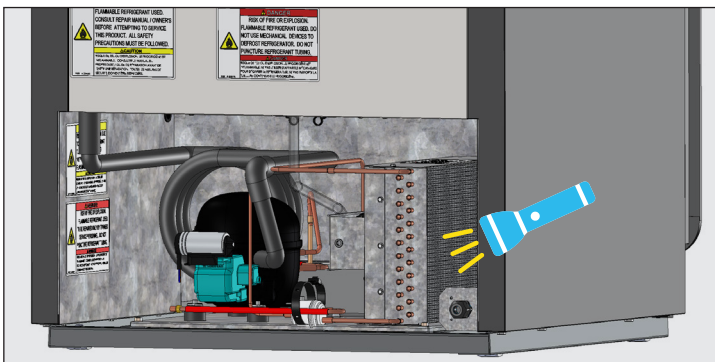

Fig. 4. Verify all blockages have been removed.
4. With dirt removed from the surface of the coil, use a flashlight to verify you can see clearly through the coil. See fig. 4.